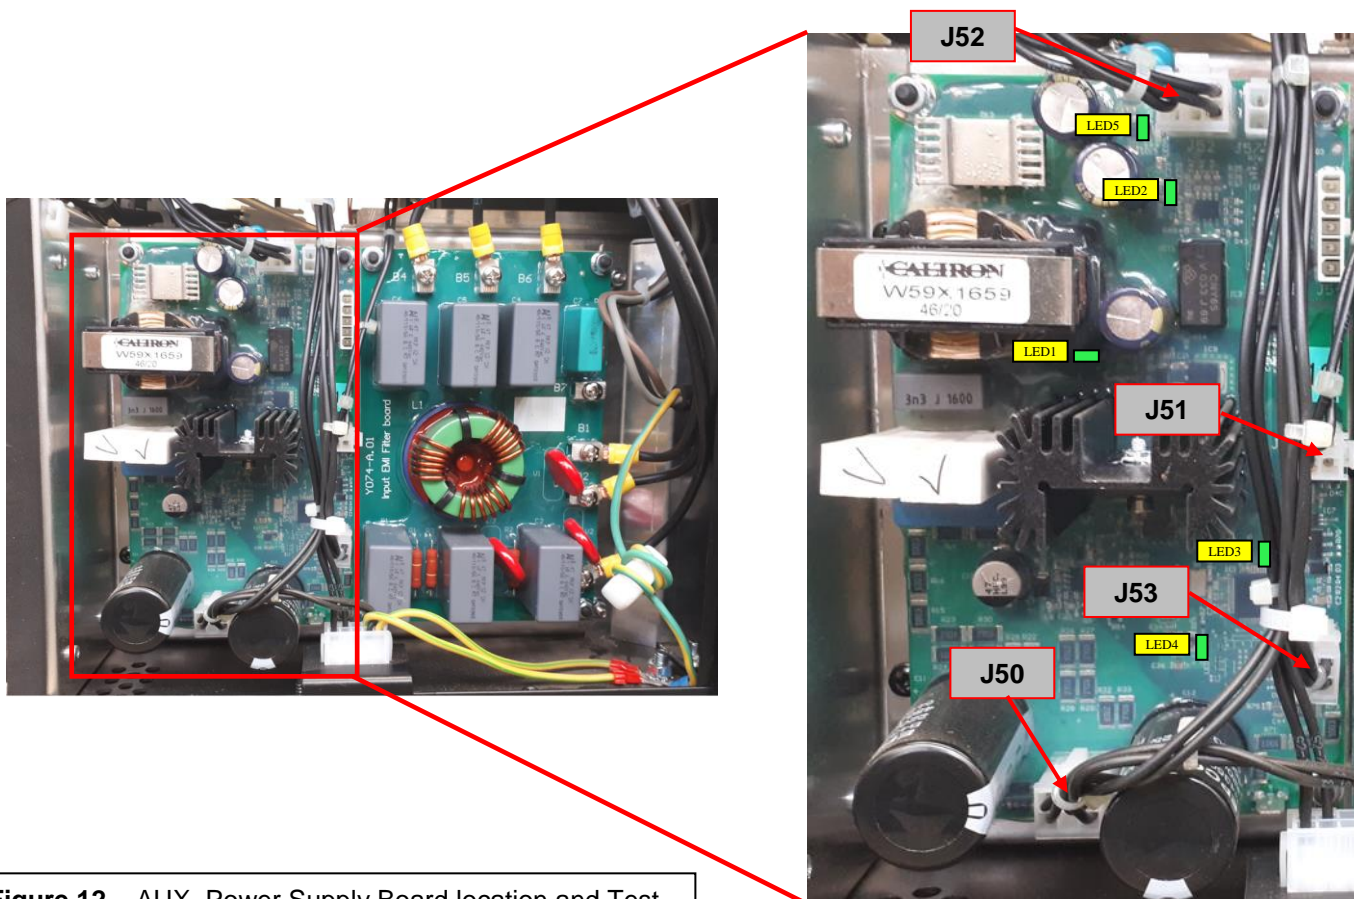

Figure 12 – AUX. Power Supply Board location and Test
6. Using the multimeter in VDC mode perform the tests as indicated in **Test Table 7**. See **Figure 12** for correct tests point location.